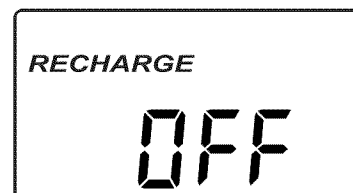

Figure 18
2. "RECHARGE OFF" will flash in the display, as shown in Figure 18, indicating that the Central Water Whole Home Filtration System is in the manual Clean Rinse mode (the automatic Clean Rinse function has been disabled).